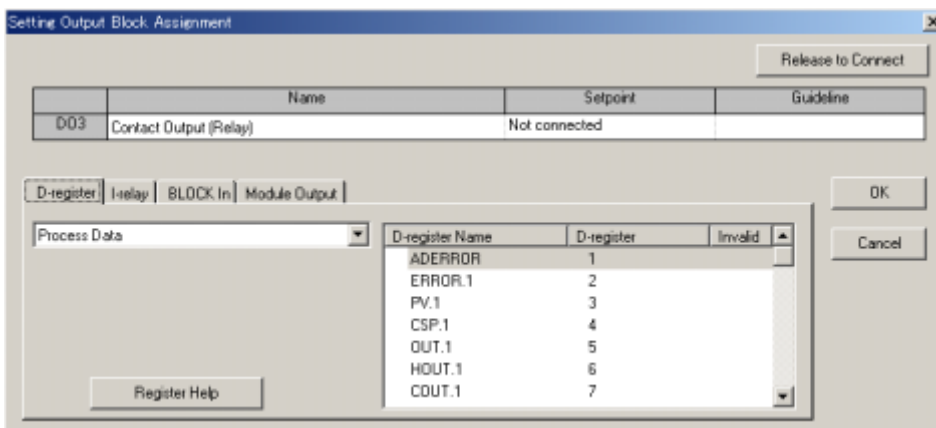

Figure 12.5.14 [Setting of Output Block Connection Assignment] Dialog Box
- (2) From the tool menus, choose <Edit [E]>, then <Connection>. The [Setting Output Block Assignment] dialog box (Figure 12.5.14) appears.